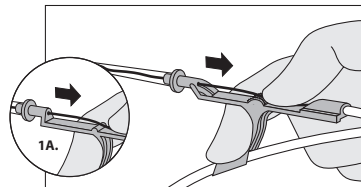

Figure 1
- Using thumb, retract "J" (refer to Figure 1 GlideWheel or 1A Standard Advancer depending on which Arrow Advancer is provided).